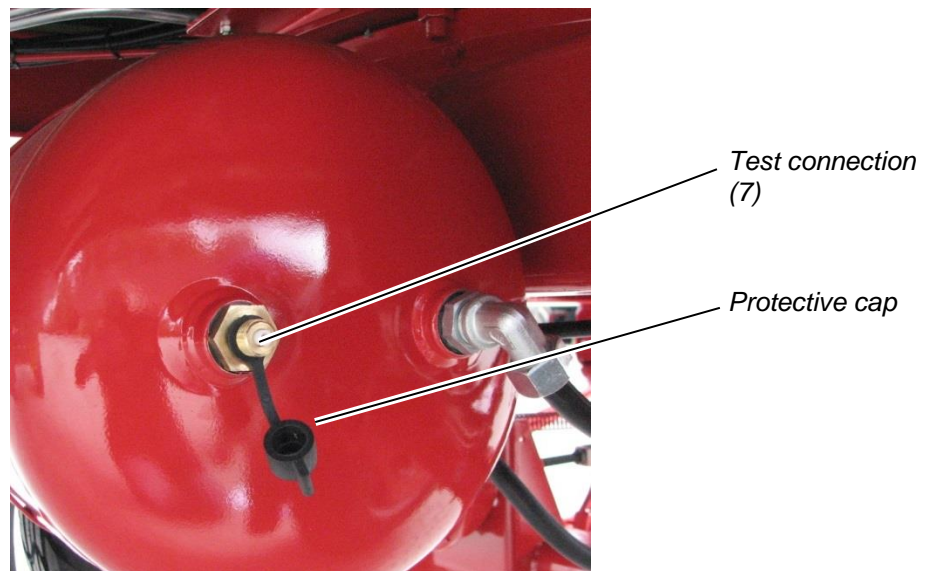

Figure 54: Test connection for a pressure gauge on the compressed air tank
- ⇒ Remove the protective cap from the test connection (7) (see Figure 54).
- ⇒ Insert the pressure gauge into the test connection (7) and read the measured air pressure.
- ⇒ Place the protective cap back on the test connection (7).
- ↳ The supply line (4), marked in red, will be pressurised with compressed air and will fill the compressed air tank.